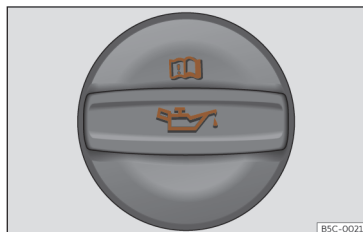

Fig. 216 Oil filler cap cover in the engine compartment.
- Locate the engine oil filler cap. It can be recognized by the symbol  on the cover >>> Fig. 216.
- Unscrew cap from the oil filler mouth >>> Fig. 216.